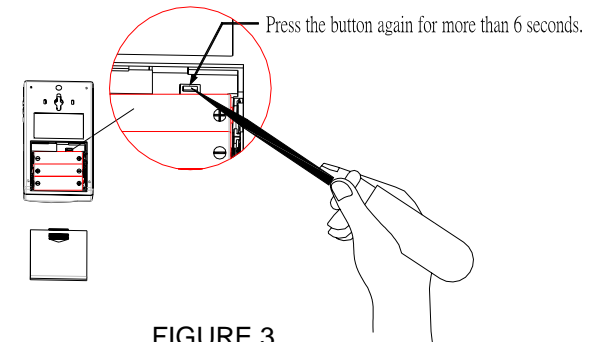

FIGURE 3
- Step 4: Upon entering the code learning mode, release the button. Before receiving the code learning command, press and hold the button immediately again for more than 6 seconds. (FIGURE 3) The Sounder will bleep per second. After 6 bleeps being heard, all the preset memory will be eliminated.